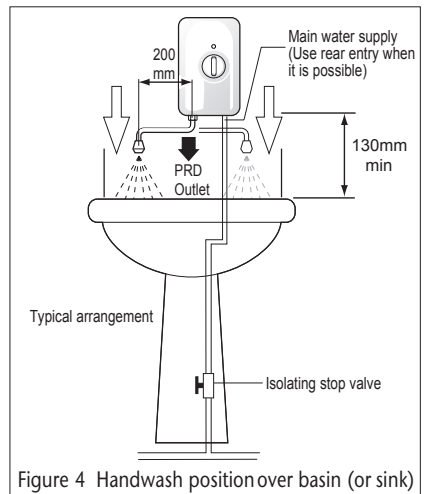

Figure 4 Handwash position over basin (or sink)
- 4.6 Position the unit above the basin so that the spray will be contained within the basin and at a convenient height for hand washing see Figure 4 (opposite).
- 5.11 An isolating stopvalve **MUST** be incorporated to the main water supply to comply with Water Regulations - see Figure. 4 (p.9).